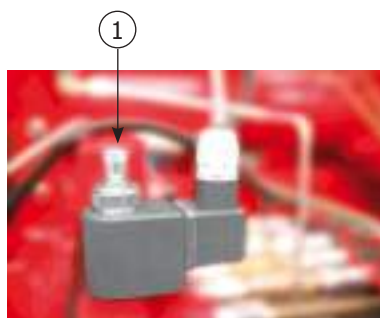
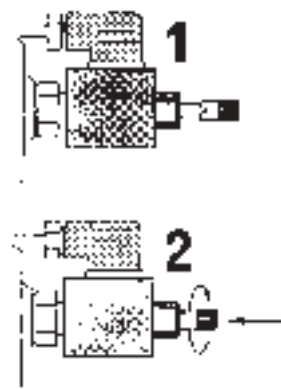

Fig. 11.5
Fig. 11.6
- version B: fig. 11.5 - position 1.
Version B: remove the safety seal, push the tap (fig. 11.5 - position 1) and turn it clockwise (fig. 11.6).